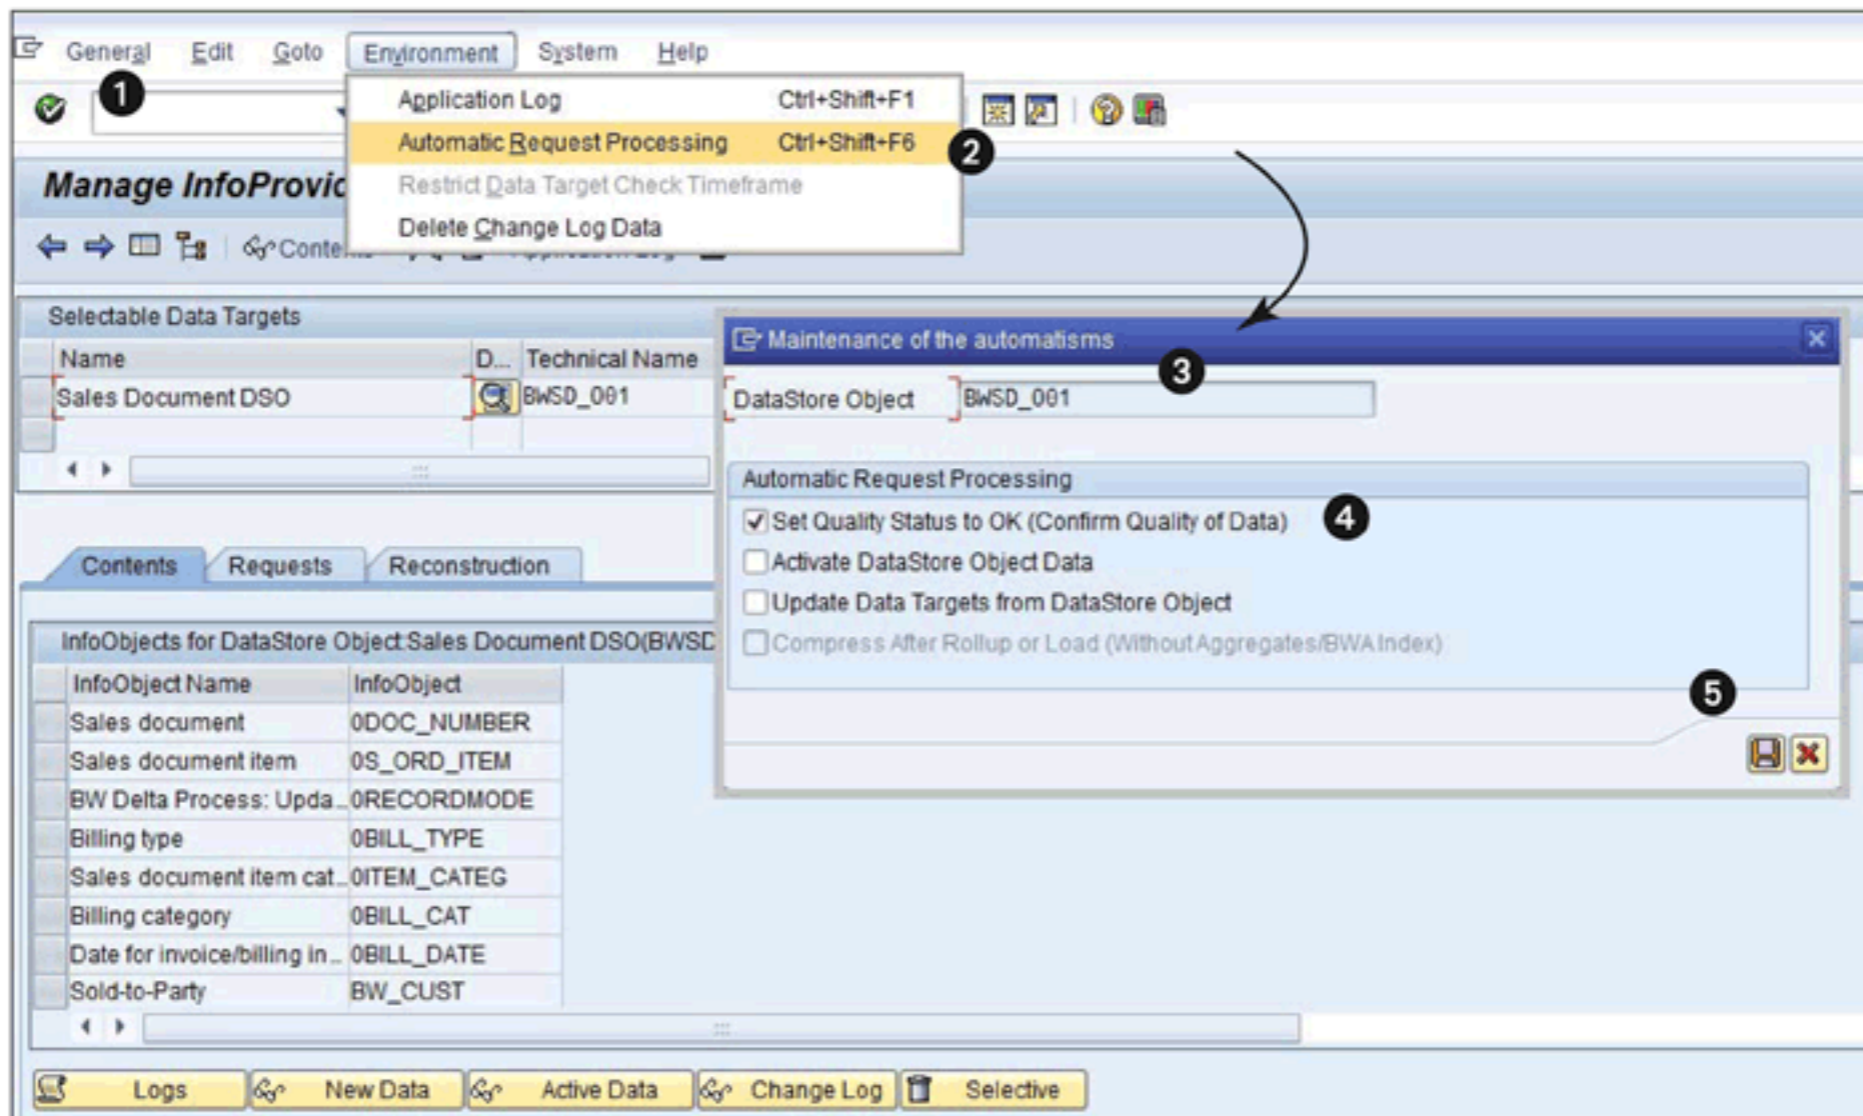

Figure 14.11 Automatic Request Processing Options for a DSO
To configure the system to process requests automatically, use the following menu path in the ADMINISTRATION screen of the DSO: ENVIRONMENT • AUTOMATIC REQUEST PROCESSING (❶ and ❷ of Figure 14.11).